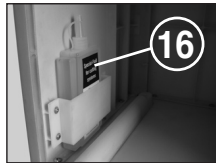

fig. 6
Pull out receptacle (14), take oil receptacle (16) (Fig. 6) out of the holder in the lower cabinet and push receptacle in again.